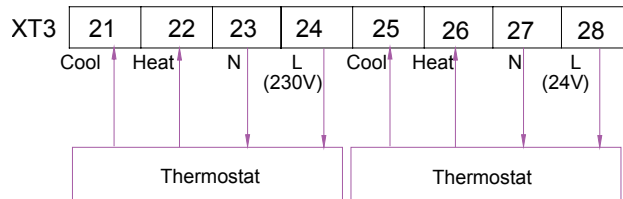
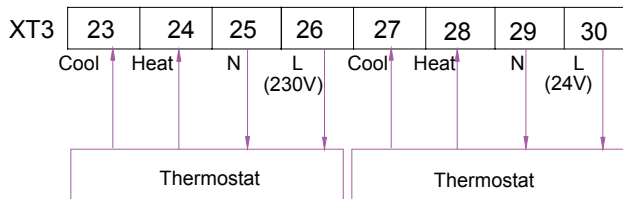

Fig .1
Fig .3
- (1). Uncover the front cover of the indoor unit and open the control box.
- (2). Identify the power specification of the thermostat, if it is 230V , find terminal block XT3 as NO.21~24 or NO.23~26; Otherwise, if it is 24V, find terminal block XT3 as NO.25~28 or NO.27~30;
- (3). If it is Heating/Cooling thermostat, please connect wire as Fig 1 or Fig 3;